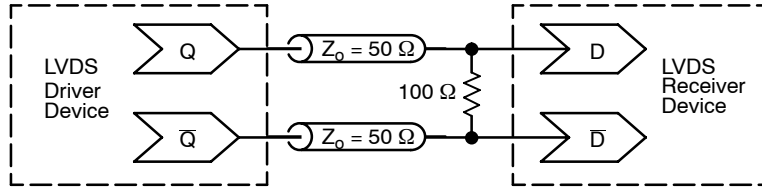

Figure 8. Typical LVDS Termination for Output Driver and Device Evaluation
- LVDS outputs require $100\ \Omega$ receiver termination resistor between differential pair. See Figure 8.